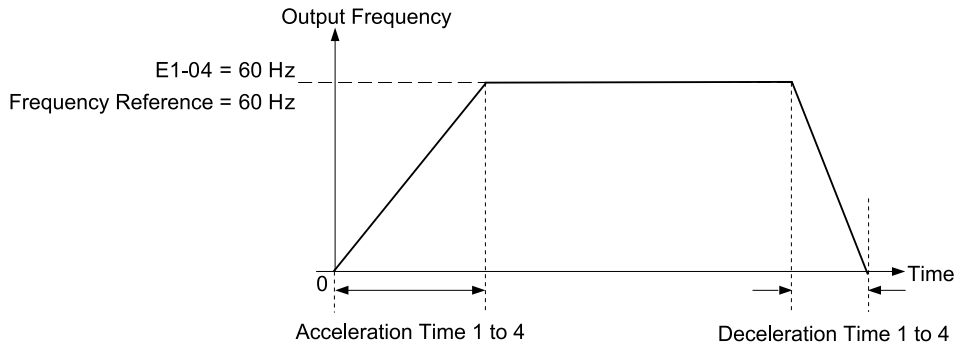
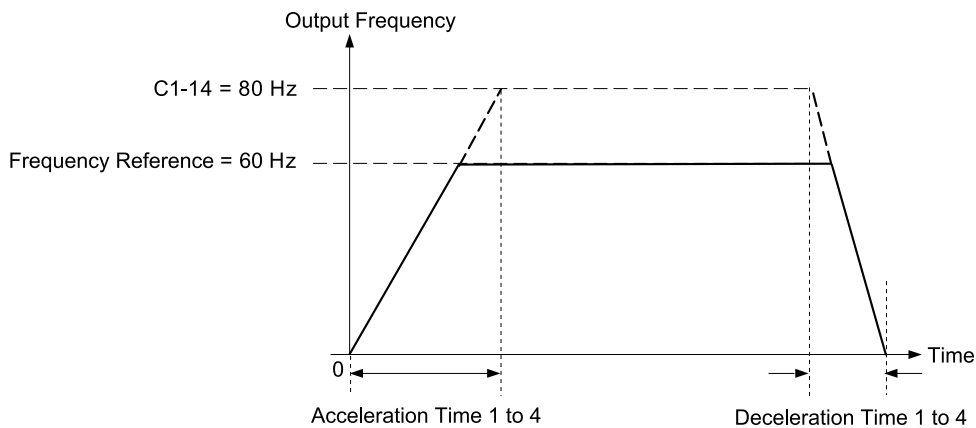

Figure 12.47 Example 1: Acceleration/Deceleration Rate (When C1-14 = 0 Hz, E1-04 = 60 Hz, and the Frequency Reference is 60 Hz)
Figure 12.49 Example 3: Acceleration/Deceleration Rate (When C1-14 = 80 Hz, E1-04 = 60 Hz, and the Frequency Reference is 60 Hz)
- Figure 12.47 to Figure 12.49 show the accel/decel times when $C2-01$ to $C2-04$ [S-Curve Times @ Start/End of Accel/Decel] = 0.00 s.